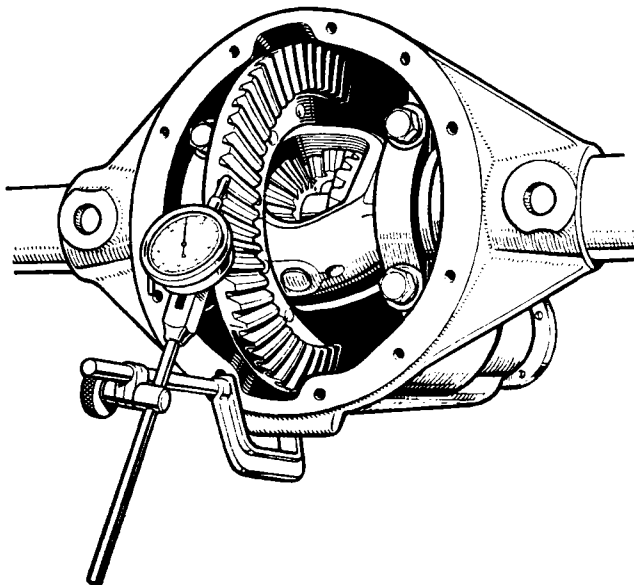

Fig. 17. Checking backlash between gears.
- (11) Remount the dial indicator on the gear carrier housing with the button against one of the drive gear teeth, as nearly in line with the direction of tooth travel as possible (see Fig. 17). Move the drive gear by hand to check the backlash which should be as etched on the gear. If the backlash is not in accordance with the specification, transfer the necessary shims from one side of the differential case to the other to obtain the desired setting. To increase backlash, remove shims from the drive gear side of the differential and install on the opposite side. Backlash is decreased by transferring shims to the drive gear side from the opposite side of the differential case.